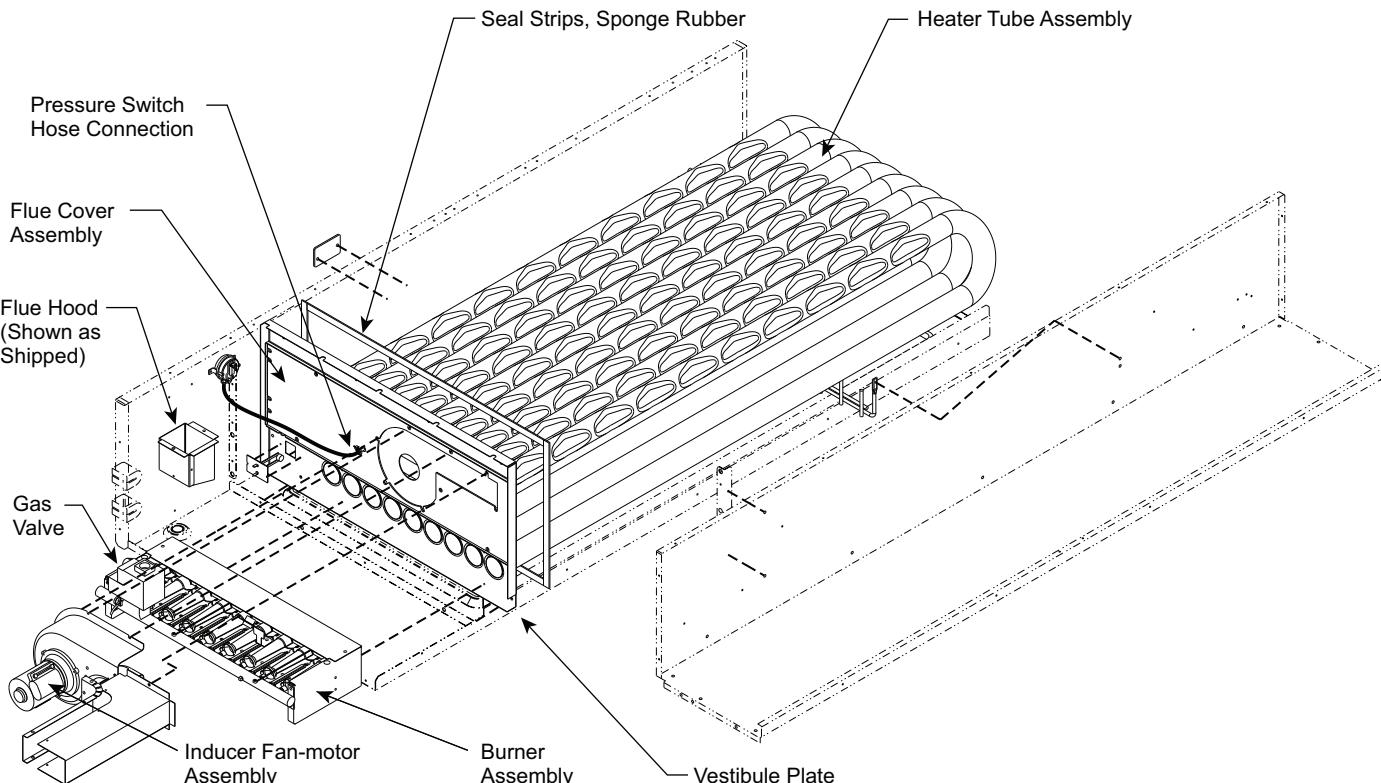

Fig. 51 — Heat Exchanger Assembly
1. Remove the combustion blower wheel and motor assembly according to directions in Combustion-Air Blower section. See Fig. 51.
2. Remove the seven screws attaching the induced-draft motor housing to the vestibule plate. (See Fig. 51.)
See Fig. 51, 53, 54, 55 and 56.
9. Remove the two screws attaching the burner rack to the vestibule plate (see Fig. 51).
10. Remove the pressure switch hose from the connection on the flue cover assembly (see Fig. 51).